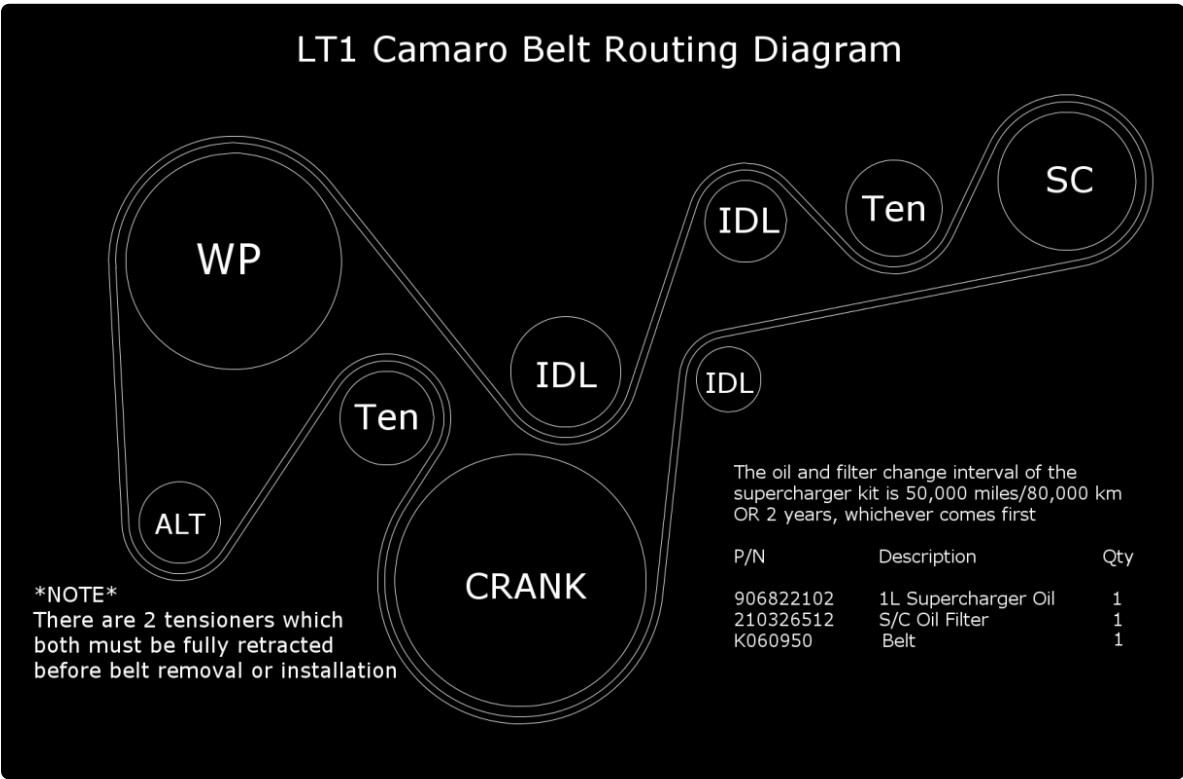

Figure 63: Serpentine Belt Diagram
27. Next install the supplied new accessory belt before moving onto the next step. To install the belt both tensioners must be compressed and/or rotated to fit the belt. See Figure 63 below for routing.